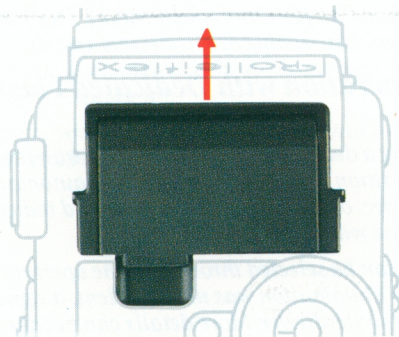

Fig. 37
- To remove the focusing hood: The hood must be in the closed position; grip the sides of the hood and draw it both forwards and upwards. This will allow the rear side of the hood to be released from its retaining clip and the hood should be lifted out from the rear. To replace the focusing hood: Locate the front of the hood in its retaining clip and gently press the rear of the hood downwards and slightly forwards. The rear retaining clip will click into place (fig. 37).